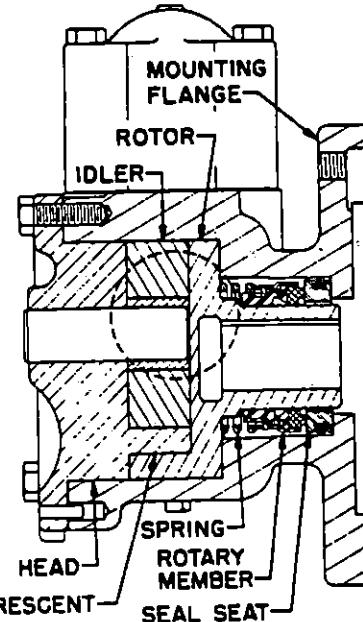

FIGURE 10
To Reassemble Model H475, HJ475 or HL475 Mechanical Seal Pumps: (see Figure 10)
6. **THE HEAD CAN NOW BE ASSEMBLED ON THE PUMP.** Tilt the top of the head away from the pump slightly until the crescent enters the inside diameter of the rotor and rotate the idler until its teeth mesh with the rotor teeth. Do not damage the head gaskets. Note correct position of idler and crescent. (See Figure 10 and Disassembly Step 2). Tighten the head capscrews and then check the end clearance.